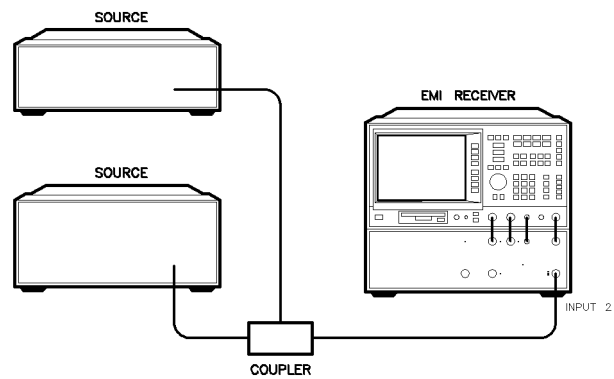

Figure 6-23. Set-Up for Obtaining Two Signals
1. Connect two signal generators to the input of the receiver as shown in Figure 6-23. Set one signal to 300 Mhz, 92 dB μ V (-15 dBm) and the other to 305 MHz, 57 dB μ V (-50 dBm). Increase the amplitude of the 305 MHz signal if it is masked by the noise level of the 300 MHz source.